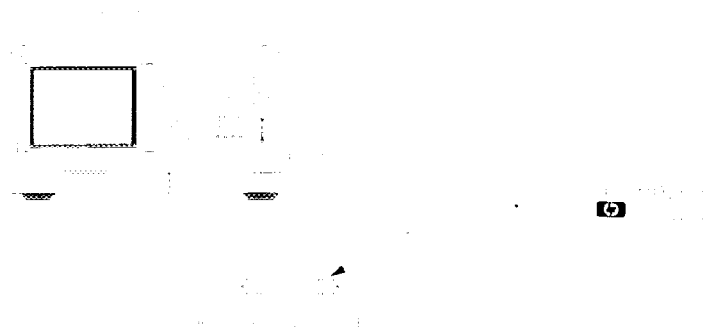

Figure 2-5. Connections for the 50 dB Verification Device
- 4 When the HP 8702D finishes all the measurements, connect the 50 dB attenuator (supplied in the verification kit), as shown in Figure 2-5.